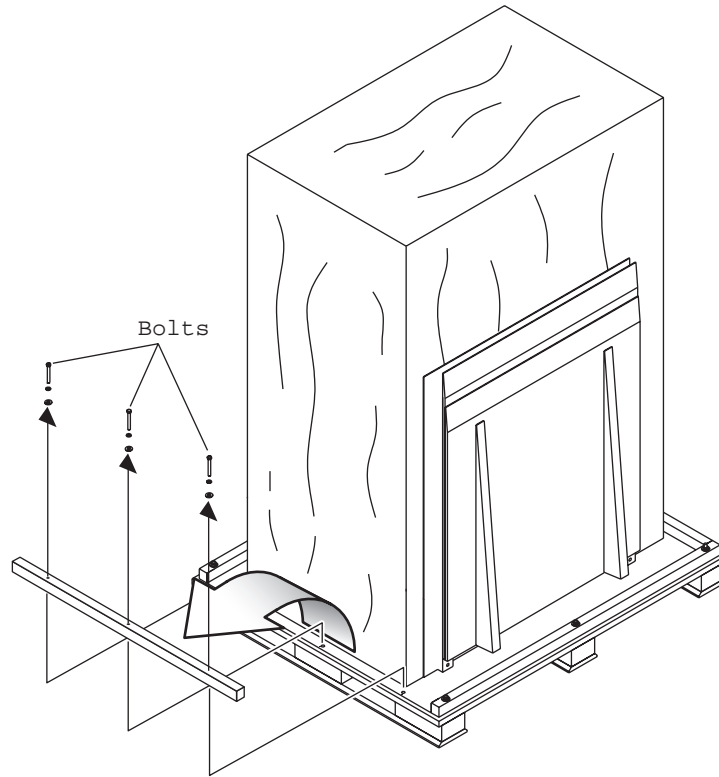

Figure 8: Removing the front pallet rail
7. Remove the 3-3/8-inch hex head bolts, lock washers, and flat washers from the front rail of the pallet and set aside. Remove the front rail from the pallet (see Figure 8).